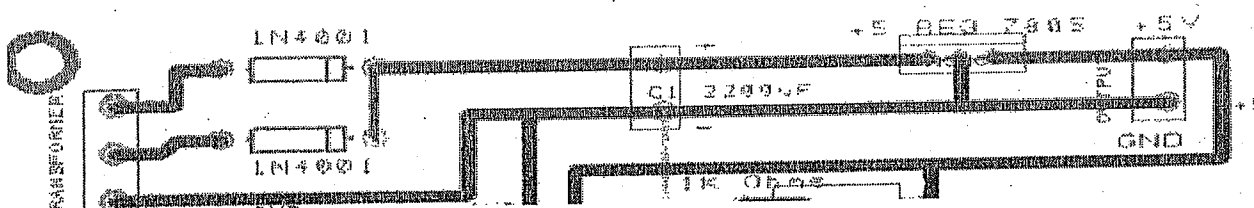

Figure 6-2
- Using the layout on the PC board, place all components on their respective positions and solder all connection on the opposite side of the PC board as shown in figure 6-2